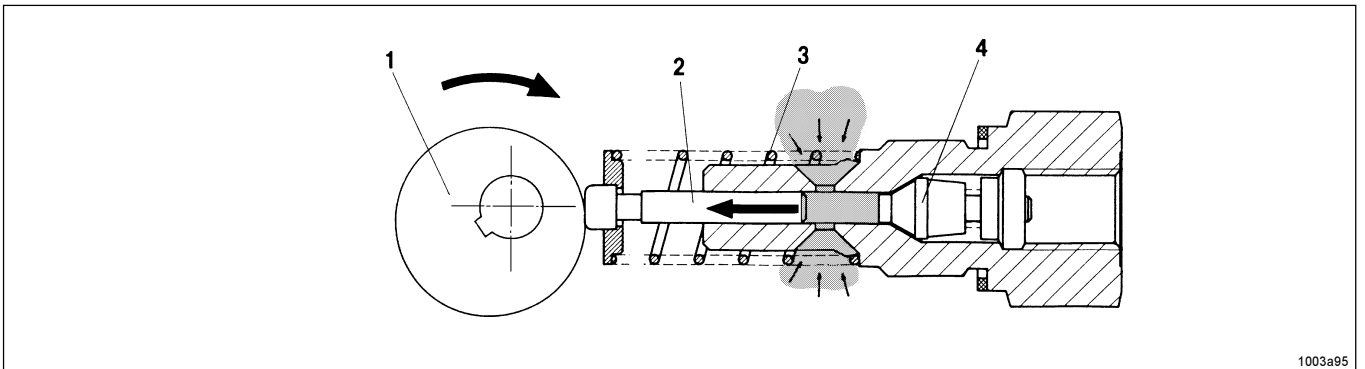

Fig. 5 - The pump element sucks in lubricant
- The electric motor drives the eccentric 1 (Fig. 5, 6).
- piston 2 sucks in lubricant from the reservoir. Refer to Fig. 5.